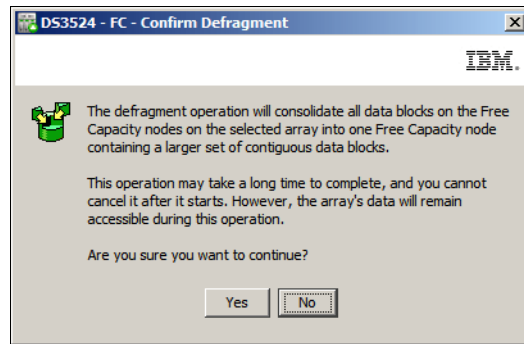

Figure 14-149 Defragment Array - confirm
2. You will be asked to confirm that you want to defragment the array as shown in Figure 14-149 on page 431.